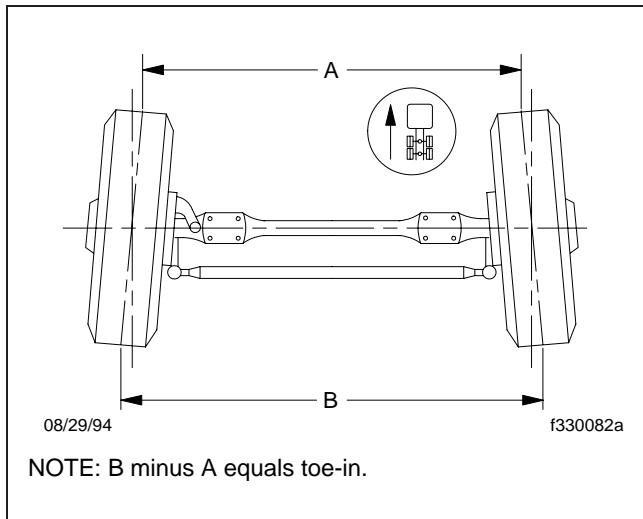

Fig. 2, Wheel Toe-In (overhead view)
6. Place a trammel bar at the rear of the front tires; locate the trammel pointers at spindle height, and adjust the pointers to line up with the scribe lines on the center ribs of the front tires. See **Fig. 2**. Lock in place. Check that the scale is set on zero.